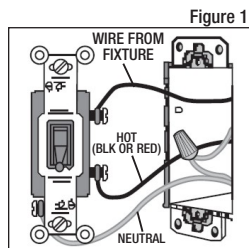

Figure 1
3. Be sure to have neutral, hot, and switch leg in box. If all wires are not present, additional wiring will be necessary before installation can be completed. (See Fig. 1)